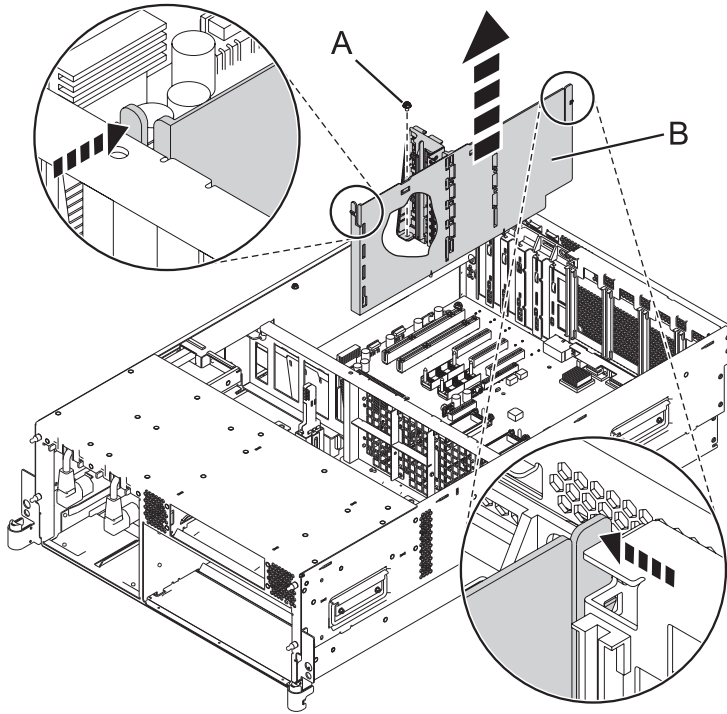

Figure 6. Removing the middle system divider
- a. Remove the screw (A) that is securing the divider to the system backplane. See Figure 6 on page 11.
- b. Grasp the middle system divider (B) and lift it out of the system.